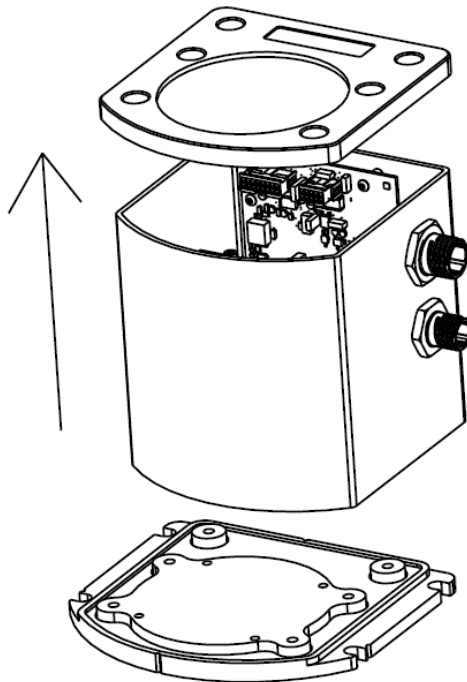

Figure 33: Lift Top Cover and Tube Body
4. Lift the tube body away from its base plate and set it aside, see *Figure 33* on page 142.